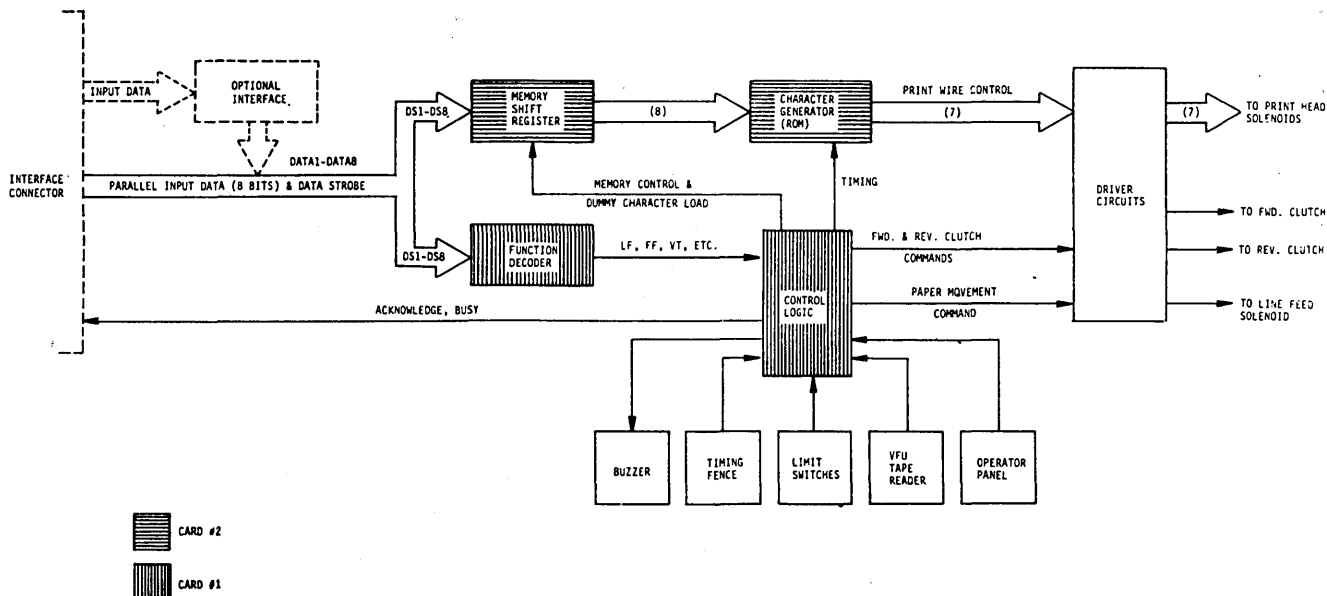

Figure 4-1. MODEL 101A FUNCTIONAL BLOCK DIAGRAM
4.1 INTRODUCTION (FIGURES 4-1 AND 4-2)
A basic block diagram of the 101A printer and a flow chart of the overall printer operation are contained in Figures 4-1 and 4-2.